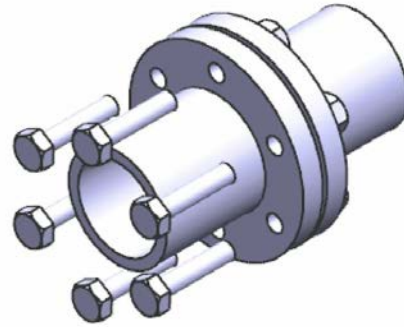

Figure 9-40 The assembly after exploding the Bolts
4. Enter **150** in the **Distance** edit box of the **Auto-explode Components** dialog box and choose the **OK** button. The exploded view of the assembly after exploding all the Bolts from the assembly is shown in Figure 9-40.